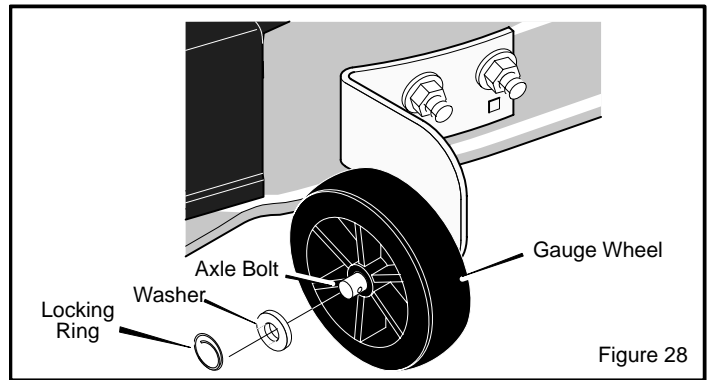

Figure 28
1. Remove the **gauge wheels** (Figure 28).